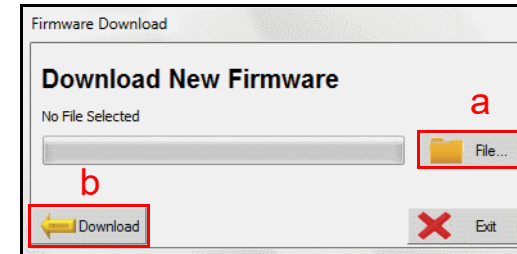

Figure 14 Download New Firmware Dialog Box
1. From the DSA Main Screen, click the Firmware  screen button. The Firmware Download screen appears (Figure 14).
2. Click the File  screen button (Figure 14 a), then browse and click on the desired Firmware file name (e.g., JCM ICB Dual RW Tool V671.bin) to be downloaded to the Docking Station.
3. Click the Download  screen button (Figure 14 b) to begin the Firmware Download.